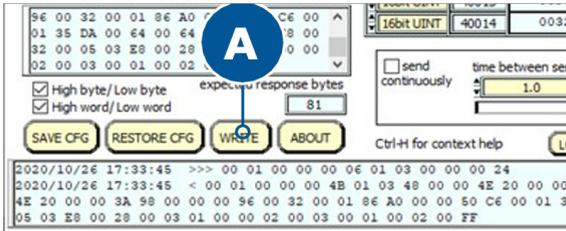

Figure 48.1.
- On the main screen click the Write button **(A)** near the bottom of the window as shown in Figure 48.1.